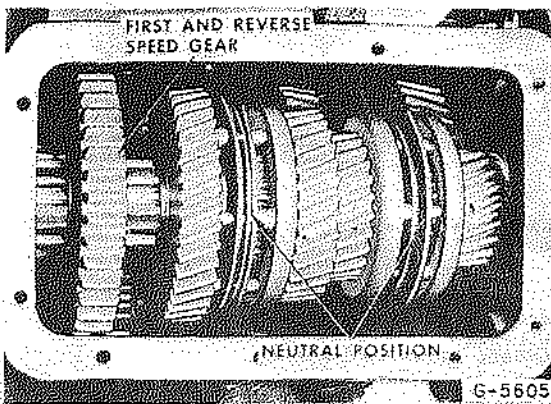

Fig. 5 - Synchronizer Positions with Transmission in Neutral
With the transmission control lever in neutral position, the sliding clutch of the front (4th and 5th speed) and rear (2nd and 3rd speed) synchronizers is as shown in Fig. 5. This allows the main drive gear (56 Fig. 1) to turn independently of the mainshaft (17).